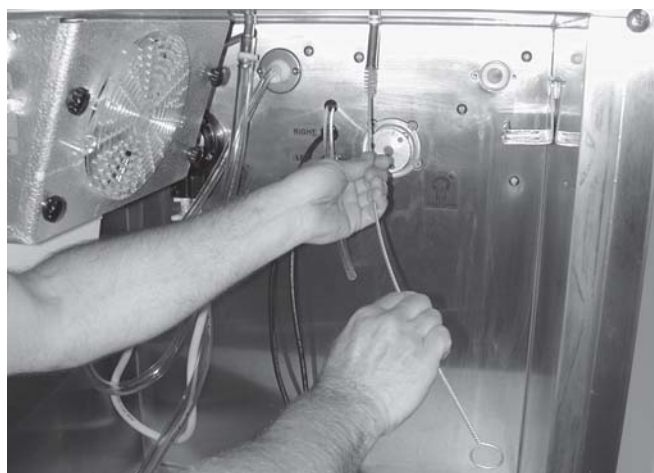

Figure 20. Cleaning Feed Tube
- C. Wash feed tube and freezer barrel with warm detergent water and brushes provided. Rinse with clean, hot water. Figure 20.